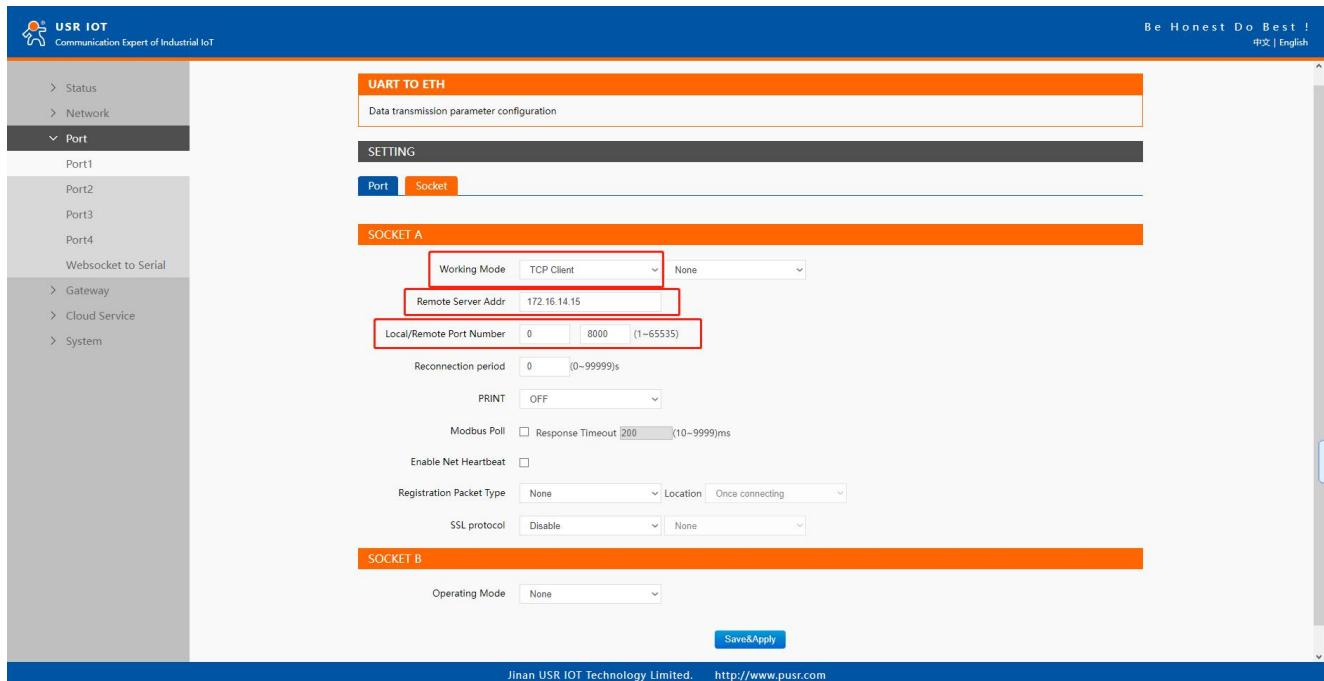

Fig. 49 TCP client work mode
When the working mode of this device is TCP Client, the remote device must work in TCP Server mode, and its IP address and port number must be configured, which can be configured in the corresponding options of the network connection. The local port number can be ignored and no configuration is required. USR-N5X0 supports SSL (TLS v1.0 or v1.2) data encryption in this operating mode. Fig.49 shows an example of configuration setting for TCP Client working mode under the Port1 socket page. You can configure other serial ports in the same way. There are additional connection settings that can be configured as shown in Fig.49.
1. Click on the “Port1” tab on the menu frame on the left side of Web UI to go to Port1 page as shown in Fig.49.